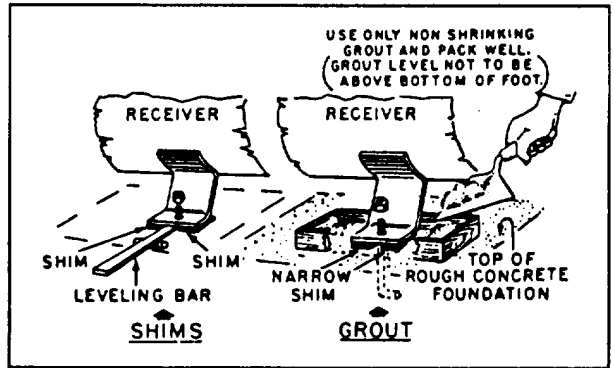

Figure 2-2. Methods of Leveling Unit.
- A. Tighten evenly, and to a moderate torque, the nuts of any three of the four receiver feet. Check the unit for level. If the unit is not level, insert metal shims, as shown in Figure 2-2, under one or two of the feet to obtain level, and retighten the nuts.